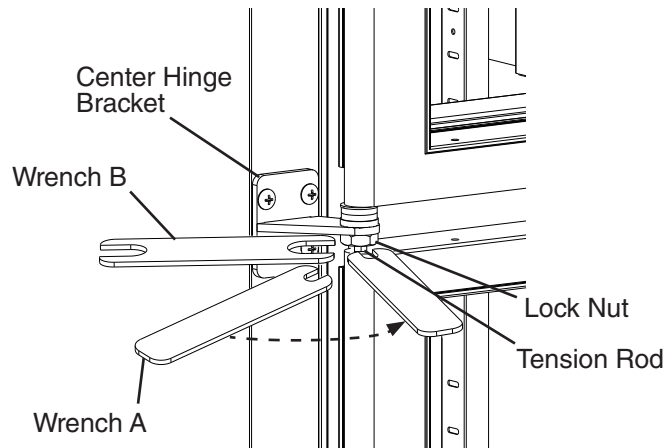

Fig. 70
- 25) Once loose, turn wrench B counter-clockwise to add tension on the tension rod. Without releasing the pressure on wrench B and the tension rod, use wrench A to tighten the lock nut. See Fig. 70.